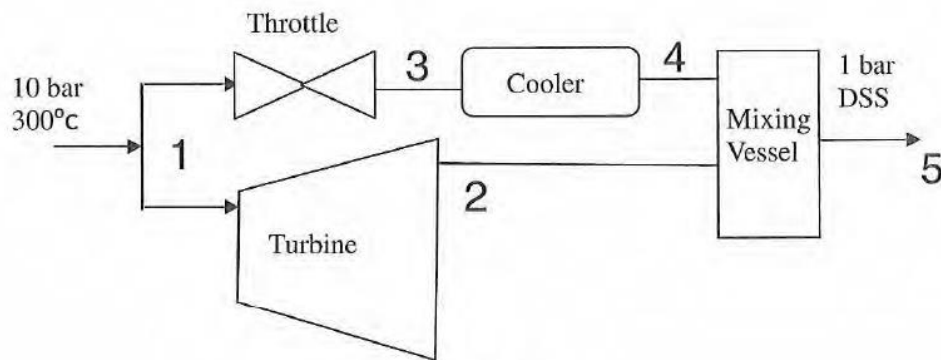

Fig Q4
4. The plant shown in Fig Q4, produces 9 tonne /hour of dry saturated steam at a pressure of 1 bar from steam at 10 bar and 300°C.